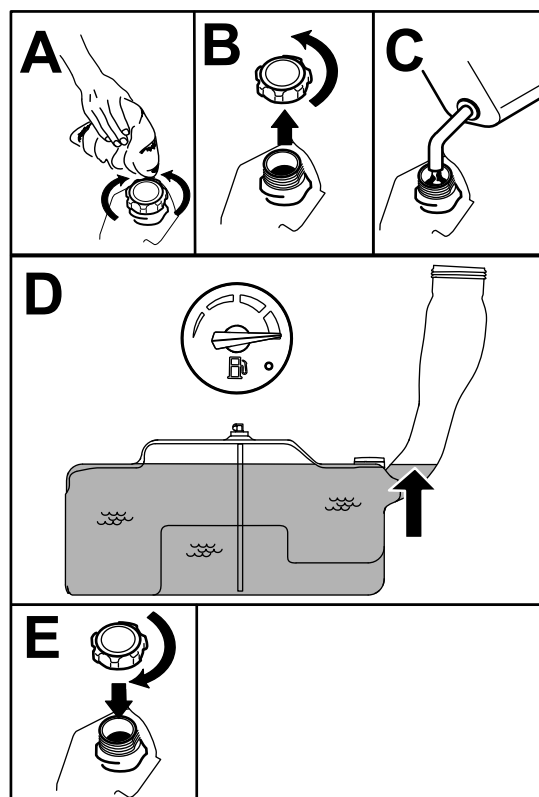

Figure 8
5. Fill the fuel tank until the fuel gauge reads at the full mark (Figure 8).